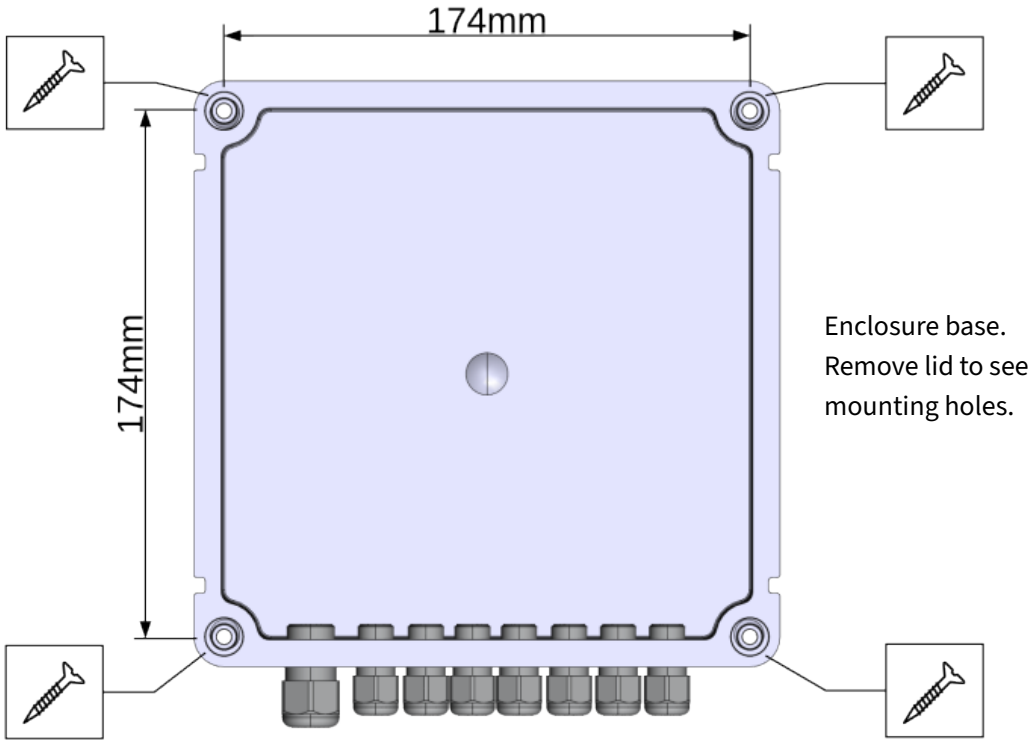

Figure 4: Enclosure mounting hole positions
- ⚠ Only use the mounting points shown in Figure 4. Do not drill holes in the enclosure or otherwise modify it as this would affect the IP65 rating and may allow water and/or moisture to enter the enclosure, affecting the correct function of the alarm and/or electrical safety, resulting in a potential electric shock hazard. It would also invalidate the ATEX/UKEX/IECEX certification.
- ⚠ The voltages used on all the relay output contacts must be similar, i.e. do not mix low voltage (ELV) and high voltage (LV).
2. Use the mounting points provided on the enclosure to mount in the position required. See Figure 4 for mounting points and dimensions.